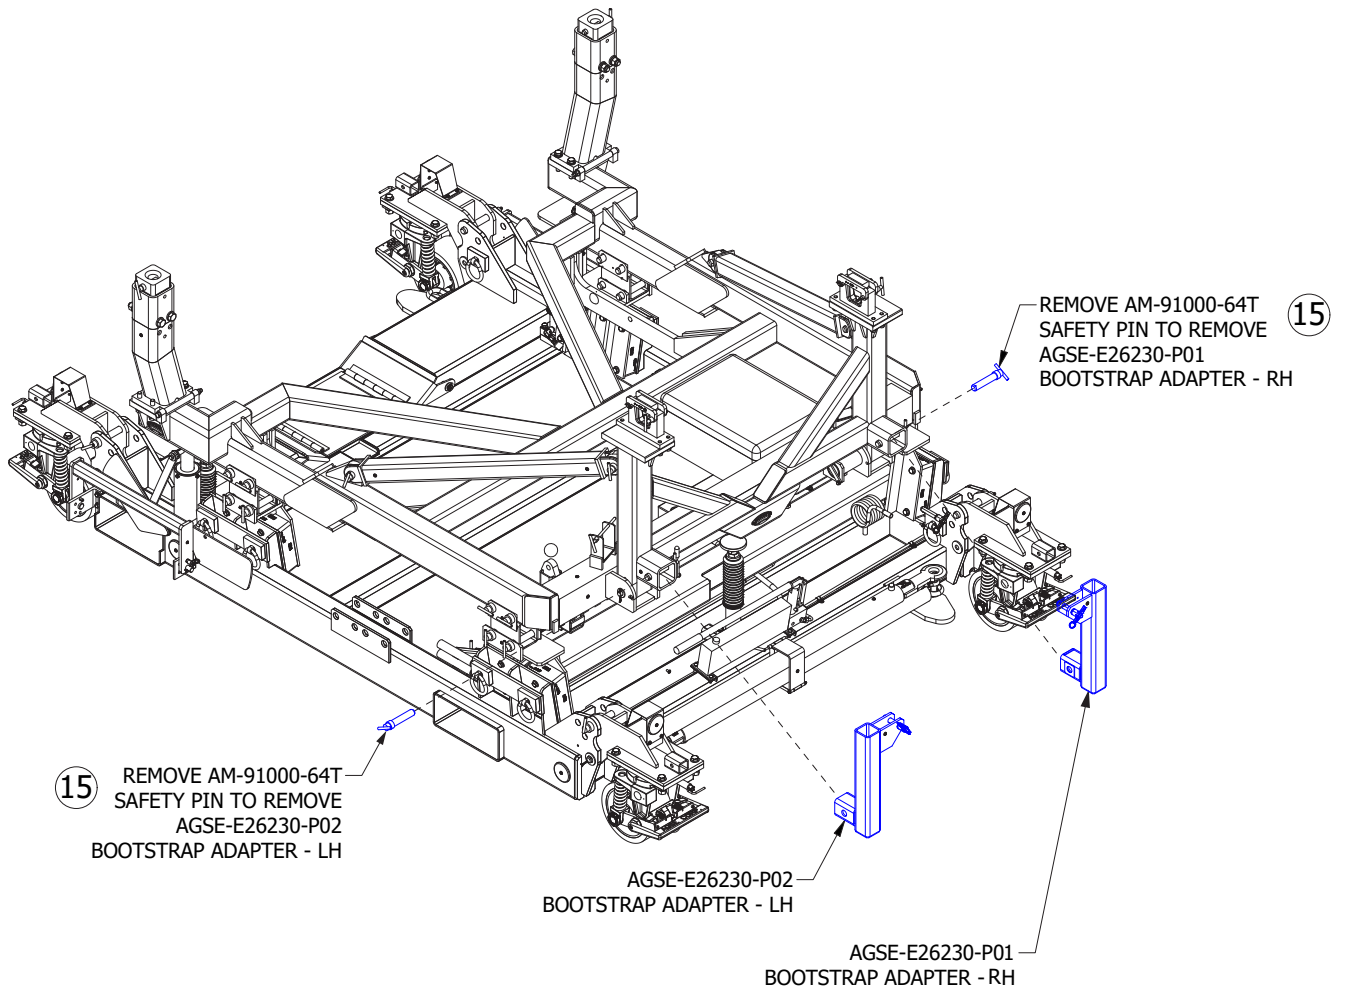

Figure 5.1-7
15) Remove two (2) AM-91000-64T safety pins to remove AGSE-E26230-P01 RH bootstrap adapter and AGSE-E26230-P02 LH bootstrap adapter. (Illustration Figure 5.1-7).